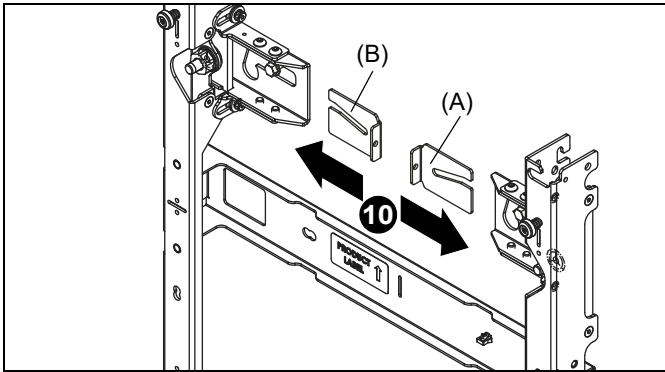

Figure 8
- Slide the left (B) and right adjustment washers (A) into place behind the partially installed lag screws. (See Figure 8)